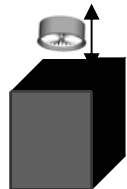

Fig. 13
4. Hold the HEPA filter by the edges and vigorously "TapClean" the HEPA Filter **dirty side down** on a hard, flat surface until no more dust is observed falling out from between the pleats of the filter. (Fig. 13) We recommend washing the HEPA filter once a month or when suction appears to be reduced. Let the HEPA filter air dry completely for 24 hours.